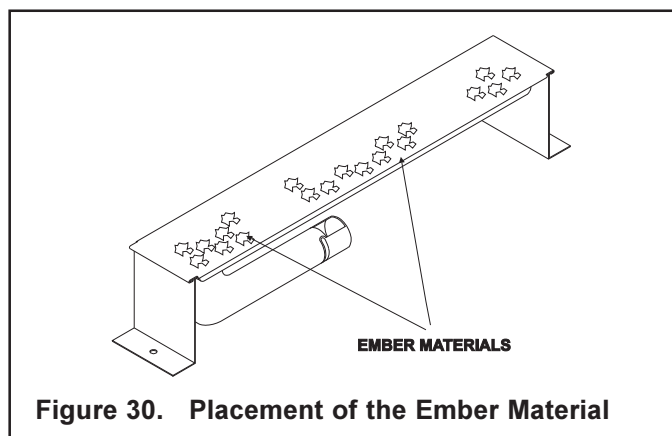

Figure 30. Placement of the Ember Material
- Place dime size pieces of ember material about 1/2 inch apart near port holes in burner top. Do NOT press embers into burner ports. Cover the top of the burner with a single layer of ember material. Then sprinkle GE-93 on top of the burner. For best performance do NOT place embers on the ports at the rear of the burner (see Figure 30).